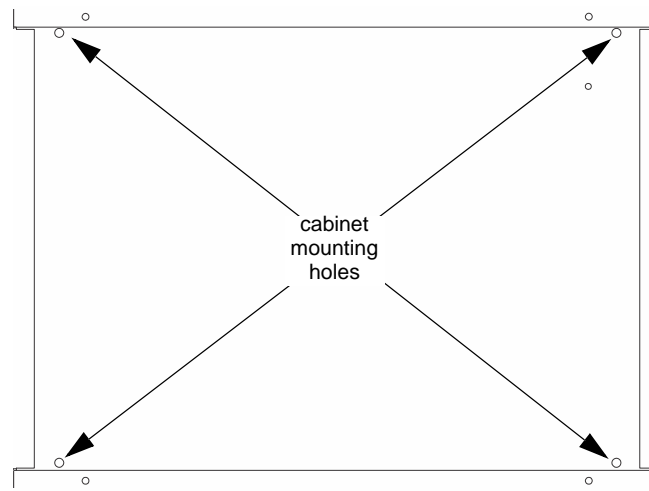

Figure 4.7 RBB/AB-55 Cabinet Mounting Holes
1. Mount the accessory cabinet. See Figure 4.7 for the four cabinet mounting holes.